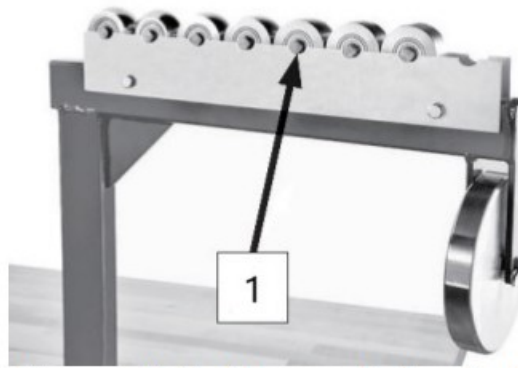

Fig. 10 – Unit of lower cylinder of cylinder holder
7. Put a lower cylinder axle in every lower cylinder, then set the unit onto the cylinder holder (see Fig. 10).